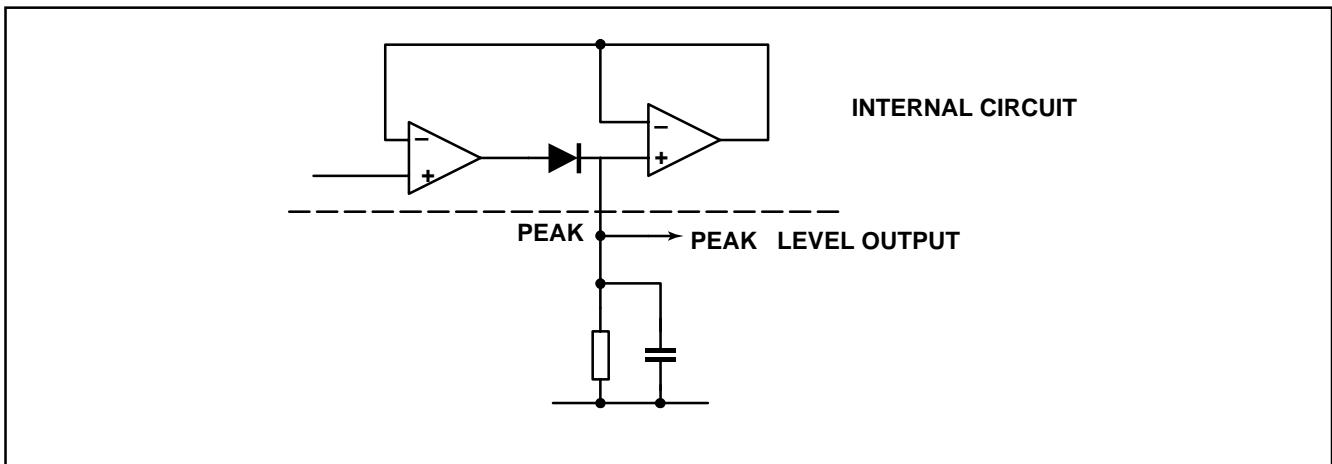

Fig. 5 Peak detector output
2. For coding schemes with d.c. content (e.g. low duty cycle pulse width modulation) an active peak detector is included. The output at pin PEAK represents the peak level at the data filter output (as shown in Fig.5). An external RC time constant at this pin determines the maximum attack and decay times of the peak detector. Typical values for the leakage and diode current source capability are shown in the specifications. The comparator has relatively low drive capability (push/pull current source output of  $20\mu\text{A}$ ) and hence DATOP should not be excessively loaded. On chip positive feedback around the comparator provides a nominal hysteresis level of 20mV.